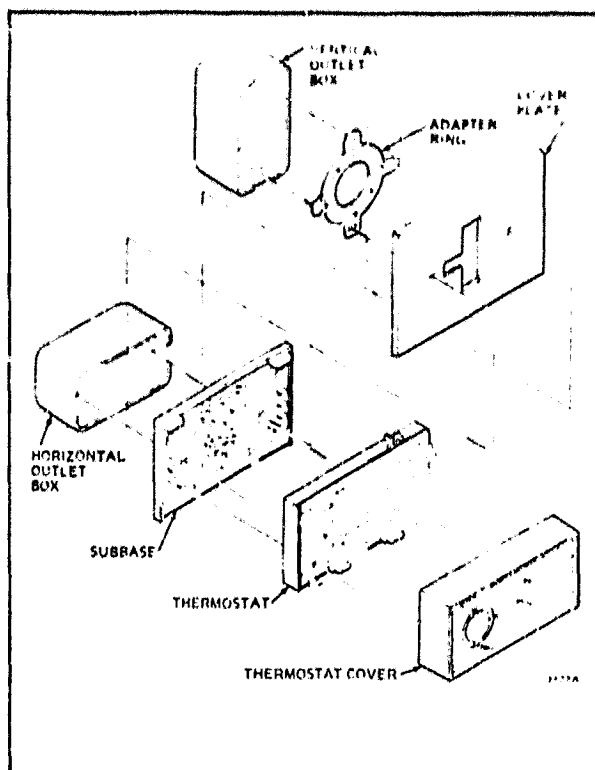

FIG. 3—INSTALLATION OF Q672 SUBBASE ON OUTLET BOX.
3. If mounting the subbase on a vertical outlet box (Fig. 3), install the adapter ring with the 2 screws provided.